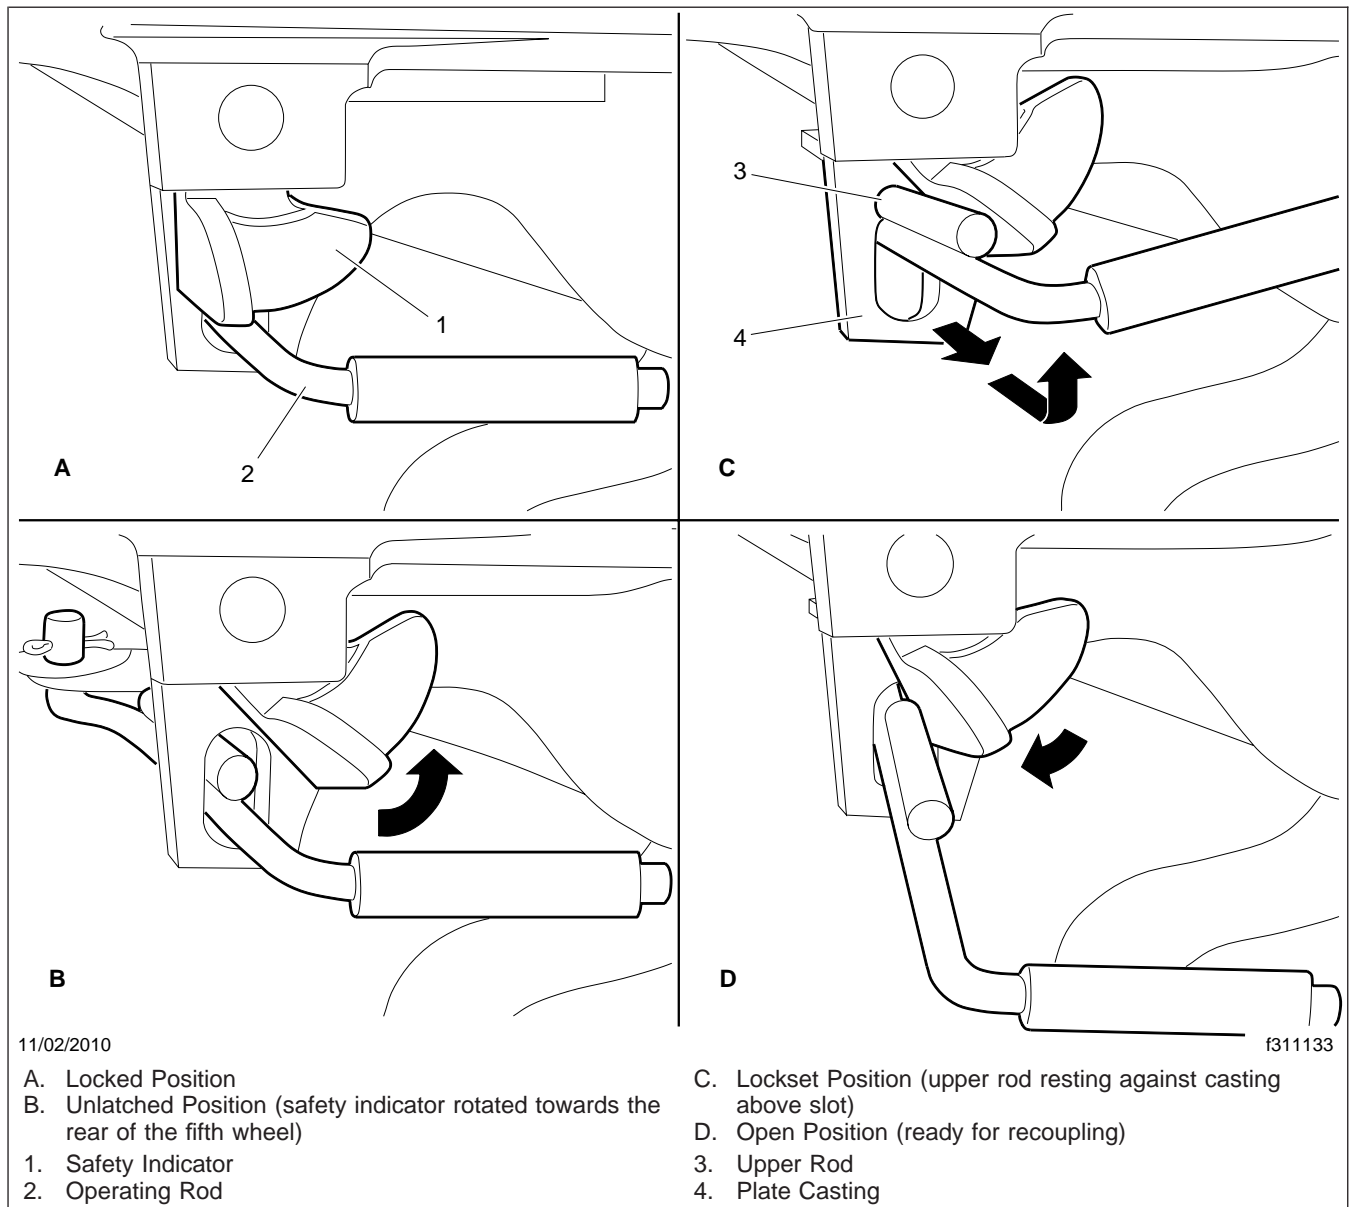

Fig. 10.9, Holland Kingpin Locking Mechanism
- 6.2 **Holland:** In the locked position the safety indicator swings freely over the operating rod. See Fig. 10.9, View A.
To unlock the mechanism, manually rotate the safety indicator toward the rear of the fifth wheel. See Fig. 10.9, View B.
Pull the operating rod out. When the upper operating rod shoulder is outside the slot, raise the handle and place the shoulder of the upper rod against the plate casting, above the slot. See Fig. 10.9, View C.
The fifth wheel is now in the lockset position and is ready for uncoupling. As the tractor pulls away from the trailer the kingpin forces the jaw to rotate, contacting the lock. Continued rotation of the jaw forces the lock to move outward, and drops the upper rod back into the slot. See Fig. 10.9 View D. The wheel is now ready for coupling.